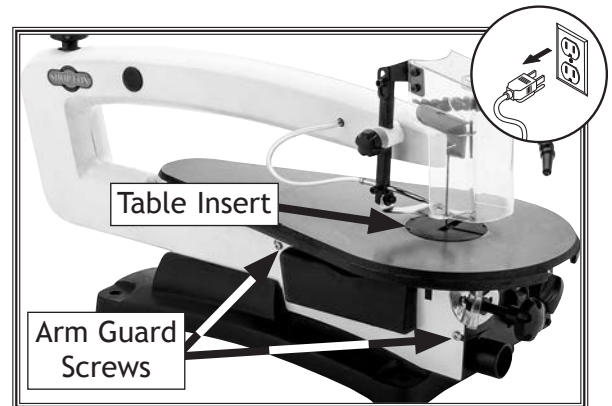

Figure 26. Table insert and arm guard.
4. Remove table insert, then use Phillips head screwdriver to remove screws from lower arm guard shown in Figure 26.